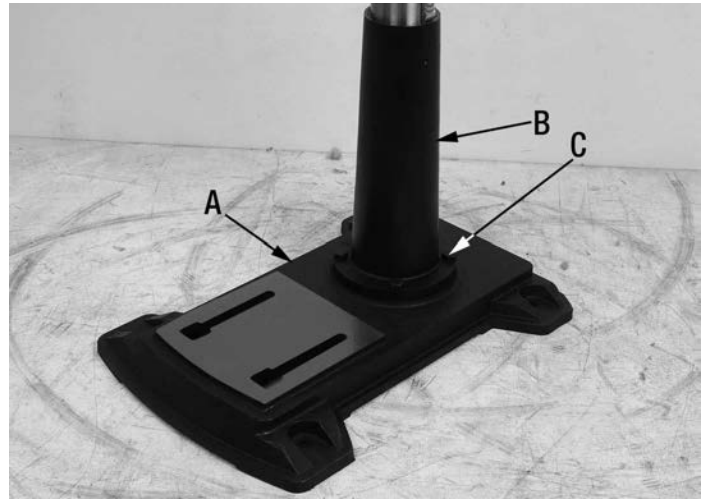

FIGURE 6
- 1) Position the base (A) Fig.6 on the floor. Remove the protective covering and discard.
- 2) Remove protective bag from the column, column support and table support assembly (B) and discard. Place the column assembly on the base, align the holes in the column support with the holes in the base.
- 4) Install a hex. bolt (C) Fig.6 in each hole through the column support and the base and tighten with a wrench.
Note: It is recommended to securely fasten the drill press base (A) Fig.6 to a wooden base or floor. This would prevent the drill press from possibly tipping over, walking during operation.